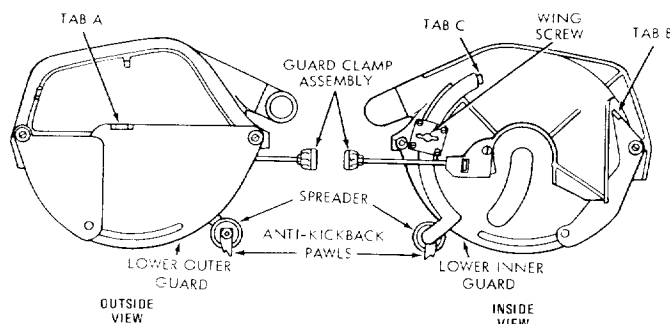

Figure 49
- e. The lift-tabs (A and B, figure 49) on the guard assembly are provided for use under certain conditions. In order to prevent the inner or outer lower guards from binding (**with power off**), lift lower guards with tabs (A or B, figure 49) while lowering the saw blade to the table in a bevel position.
- a. Loosen the wing screw and with tab (C, figure 49)
- h. Loosen the wing screw (figure 49) and with tab "C" position the anti-kickback and spreader assembly until the groove on the spreader is even with the top
- i. Before making the cut, check the effectiveness of the anti-kickback pawls by sliding the workpiece under the pawls in the direction of feed and then attempting to slide it in the reverse direction — the direction of kickback. If the pawls do not catch, readjust with wing screw and tab "C" (figure 49).